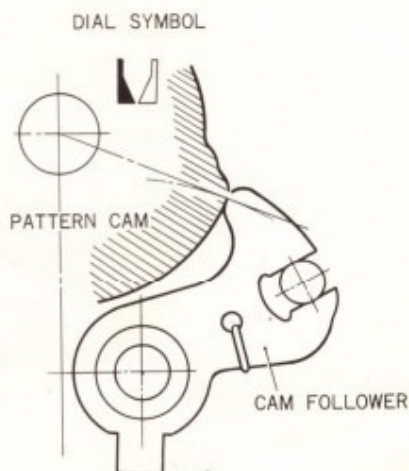

Fig. 23
5. Twist pattern selecting knob to move cam follower down to the cam for the pattern 2-4. As shown in Fig. 23. cam follower should barely touch the part of this cam contour which is most protruding. Turn selecting knob and check to see that follower tip moves up and down without being prevented by hitting this part of cam contour. If follower clears this part of this particular cam, it will clear all other cams.
2. Turn hand wheel until cam follower contacts the widest portion of the cam as shown in Fig. 23.